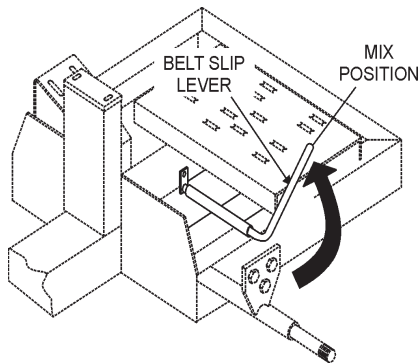

Figure 21. Belt Slip Lever (Mix Position)
- Place the belt slip lever (Figure 21) in the *mix* position. This will tilt the engine placing tension on the V-belts enabling the shaft to rotate.
1. Place the **belt slip lever** in the **start/stop** position (Figure 21).